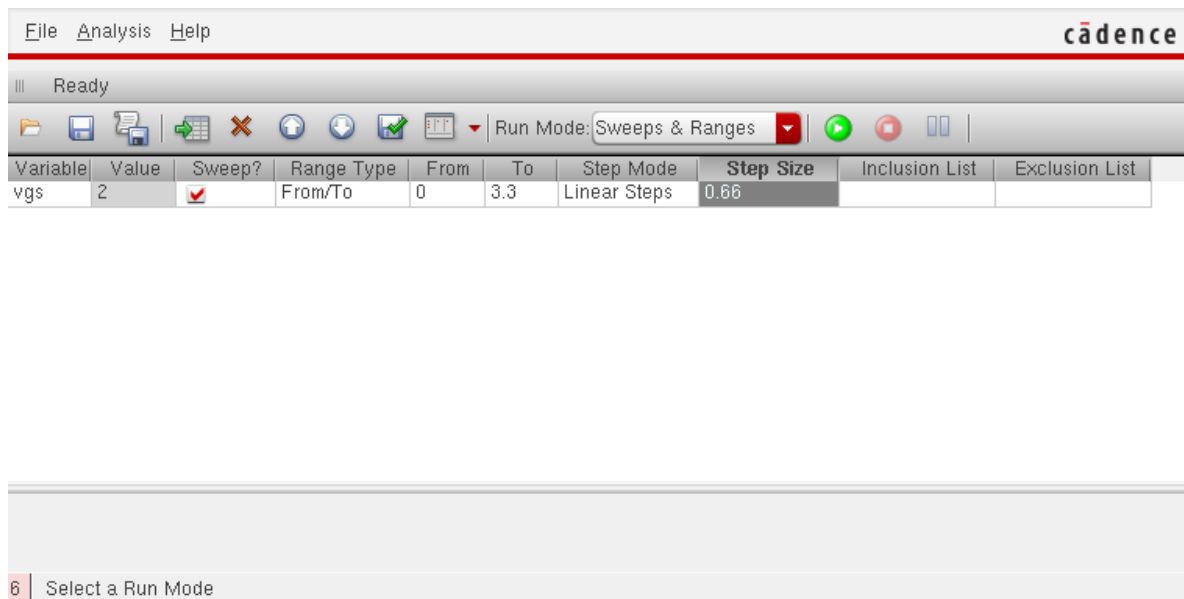

Figure 5: Parametric Sweep options
- Click on "Tools->Parametric Analysis". Choose "vgs" as the variable and write from 0 to 5 as the range of the sweep. Finally, set the step control as "Linear Steps" and write 1 to "Step Size". You have programmed the simulator to change the variable "vgs" from 0 to 3.3 V with 0.66 V linear steps. Figure 5 shows Parametric Analysis options explained here.